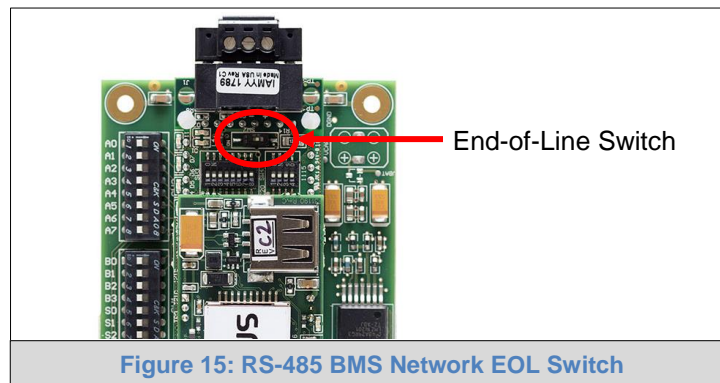

Figure 15: RS-485 BMS Network EOL Switch
- If the ProtoNode is the last device on the trunk, then the End-Of-Line Termination Switch needs to be enabled (**Figure 15**).